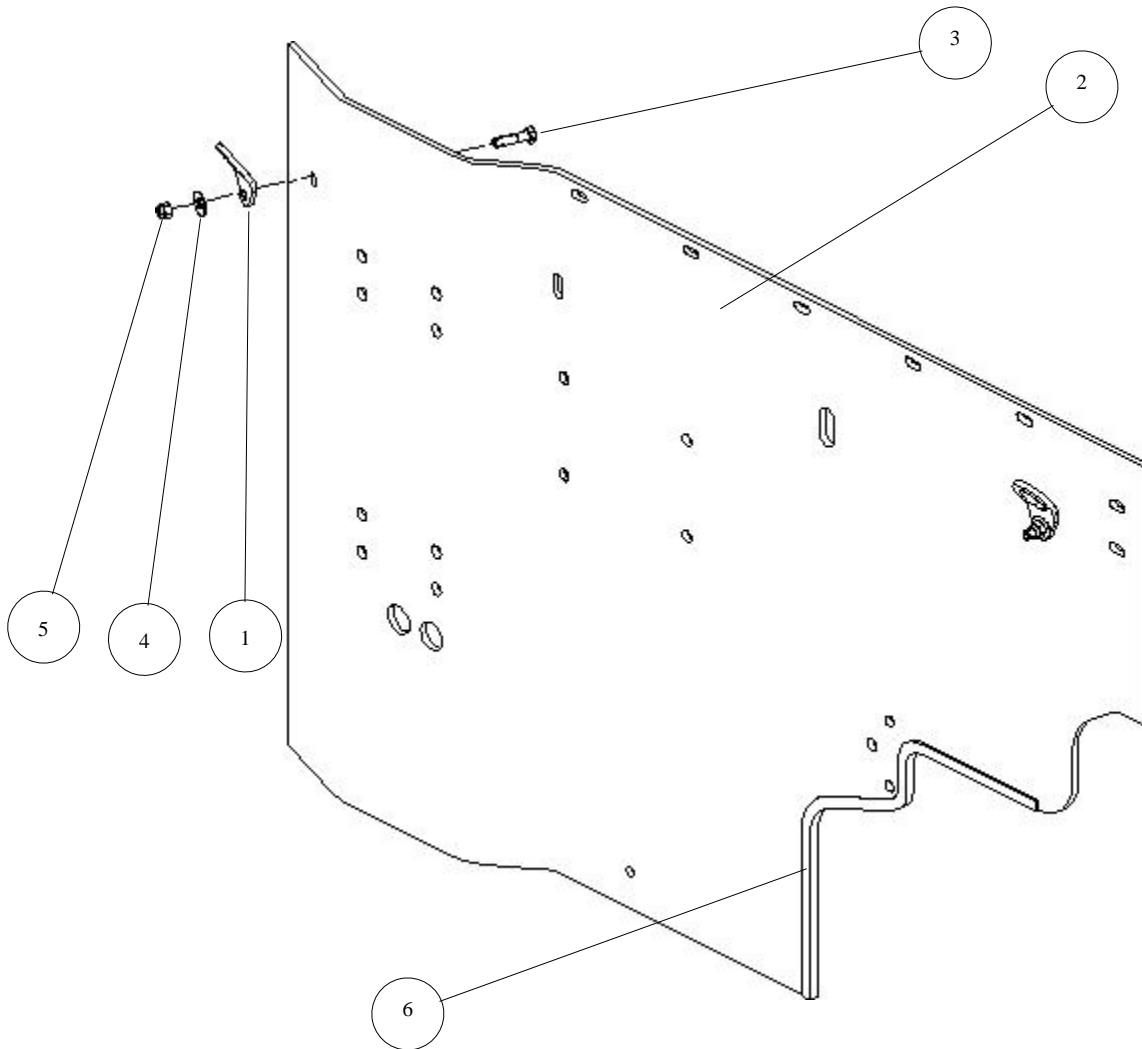

Figure 3-52. Firewall Right Panel Pre-Assembly.
1. Pre-assemble firewall right panel as follows (see Figure 3-52):
- a. Install two lift brackets (1) onto firewall right panel (2) and secure each with one bolt (3), flat washer (4), and locknut (5). Torque locknut to 35 lb-ft.
- b. Install edge trim (6).